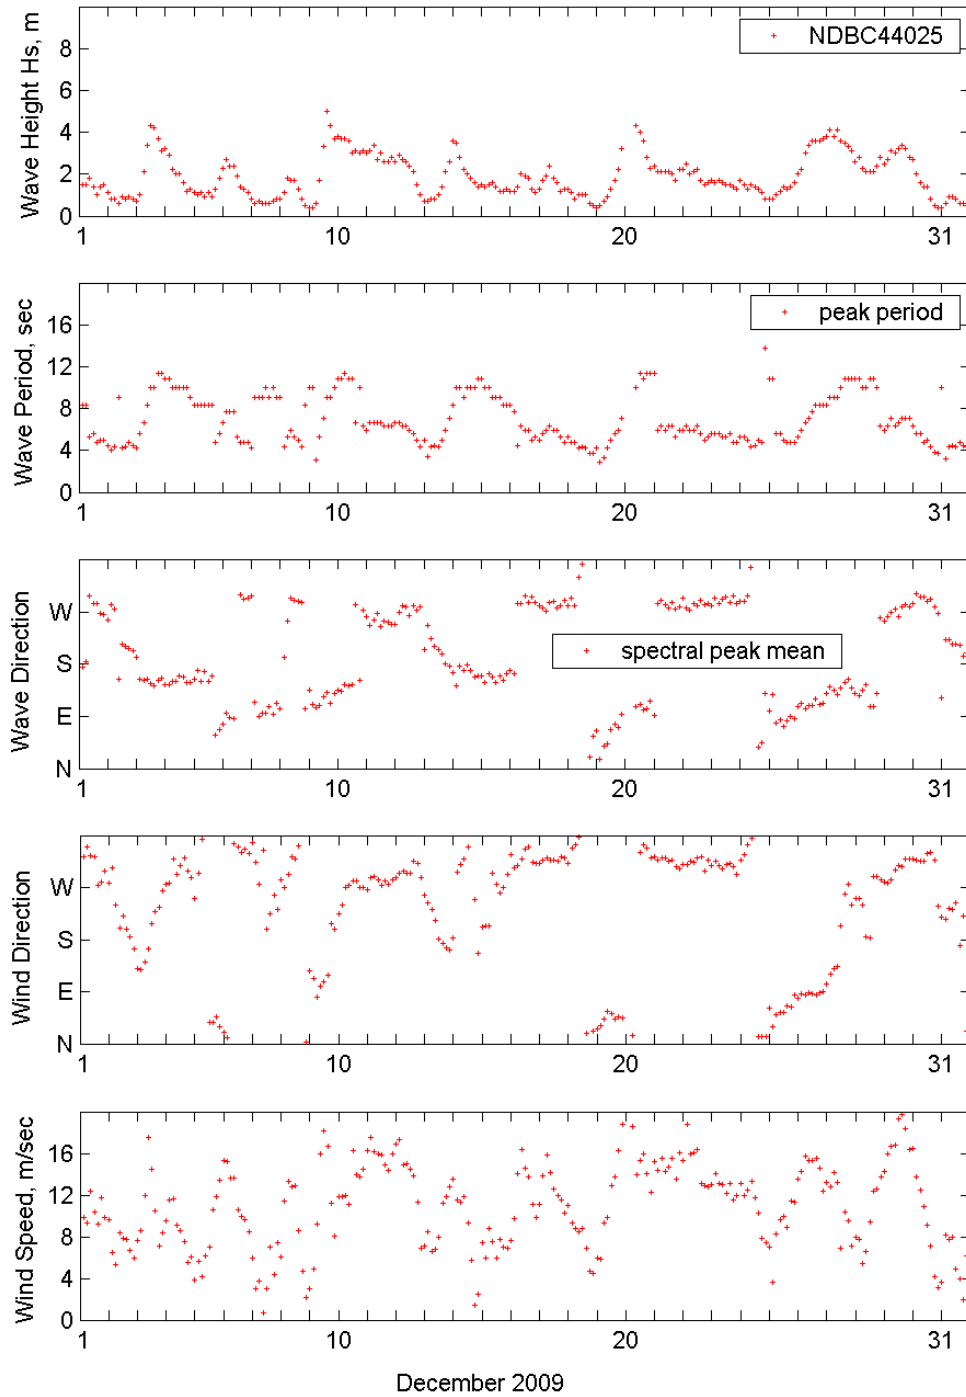

Figure 8.2.4 Run fig1set.m.
8. Type the title (text) for the plot or simply press *Enter* to skip this option, to complete the run – see Fig 8.2.4 to run **fig1set.m** or **fig1set.exe** to plot NDBC Buoy 44025 data (2009-ndbc.out) for December 2009.